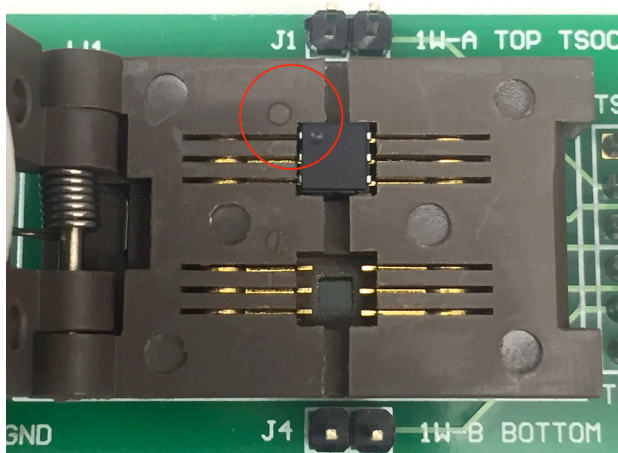

Figure 7. Chip Orientation Example
- 5) Insert the 1-Wire device of interest into the DS9120P+ socket. See Figure 7 for proper chip orientation.